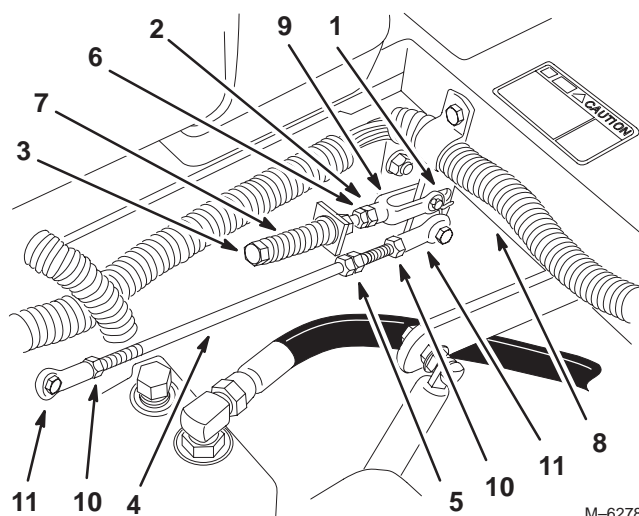

Figure 56
5. Move lever to the neutral position but **not locked** (Fig. 56).
6. Pull lever back until the clevis pin (on arm below pivot shaft) contacts the end of the slot (just beginning to put pressure on the spring) (Fig. 56).
8. If adjustment is needed, loosen the nut and jam nut against the yoke (Fig. 56).
10. Tighten the nut and jam nut (Fig. 56).
1. Loosen the locknuts at the ball joints on pump control rod (Fig. 56).
3. Adjust pump rod length by rotating double nuts on rod, in the appropriate direction, until wheel is still or slightly creeps in reverse (Fig. 56).
6. Tighten the locknuts at the ball joints (Fig. 56).